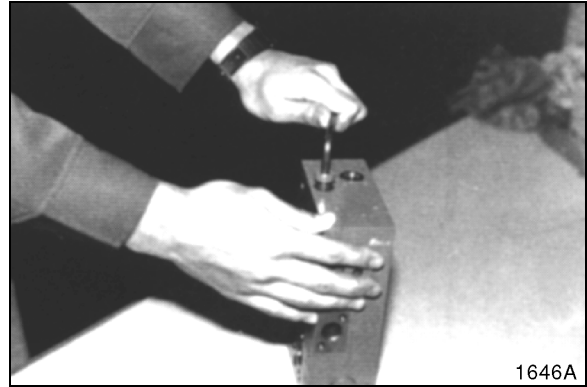

Figure 53
8. Remove plug. See Figure 53.